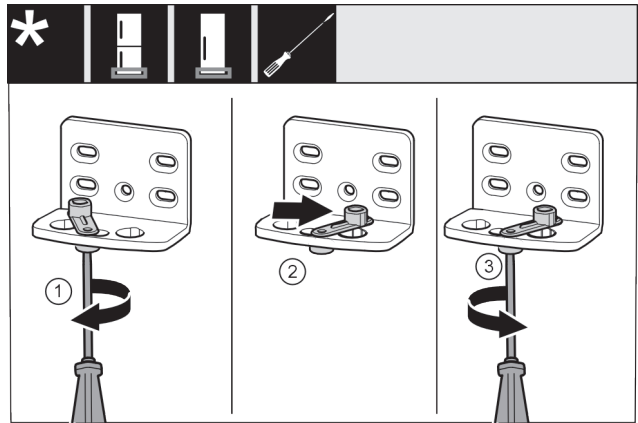

Fig. 46 \*
- ▶ Use screwdriver to loosen the screw Fig. 46 (1).\*
- ▶ Lift the door closing aid Fig. 46 (2) and turn 90° clockwise in the hole.\*
- ▶ Tighten screw Fig. 46 (3) with screwdriver.\*